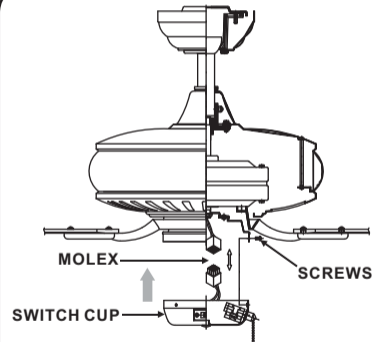

Fig 18
Step 2. Remove the screws from the switch cup plate. Place the switch cup close to the switch cup plate, align the plastic connectors from switch cup and the switch cup plate and firmly snap the two connectors. Assemble the switch cup to the switch cup plate by tightening the screws previously removed. (Fig. 18)